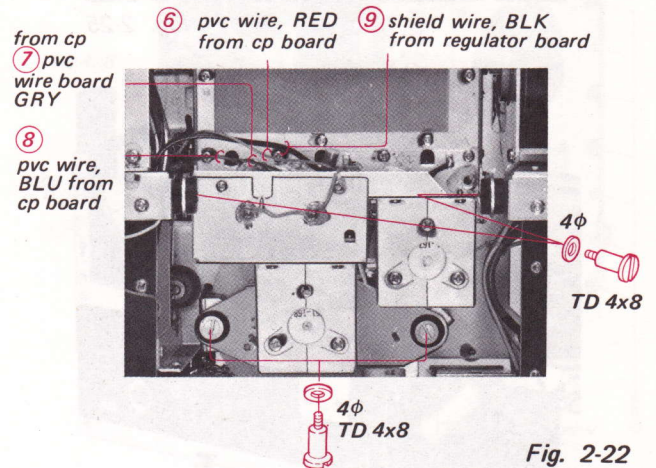

Fig. 2-22
1. Unsolder the four wires (⑥ ~ ⑨) shown in Fig. 2-22.
2. Remove the four screws shown in Fig. 2-22.